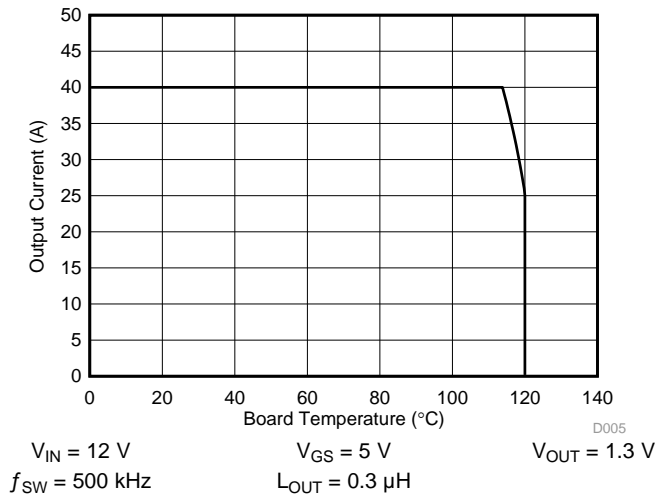

Figure 3. Typical Safe Operating Area (SOA)
$T_J = 125^\circ\text{C}$, unless stated otherwise. The typical power block system characteristic curves and Figure 3 are based on measurements made on a PCB design with dimensions of 4 in (W) \times 3.5 in (L) \times 0.062 in (H) and 6 copper layers of 1-oz copper thickness. See Application and Implementation section for detailed explanation.
The SOA curves in the CSD86356Q5D data sheet provides guidance on the temperature boundaries within an operating system by incorporating the thermal resistance and system power loss. Figure 3 outline the temperature and airflow conditions required for a given load current. The area under the curve dictates the safe operating area. All the curves are based on measurements made on a PCB design with dimensions of 4 in (W) × 3.5 in (L) × 0.062 in (T) and 6 copper layers of 1-oz copper thickness.